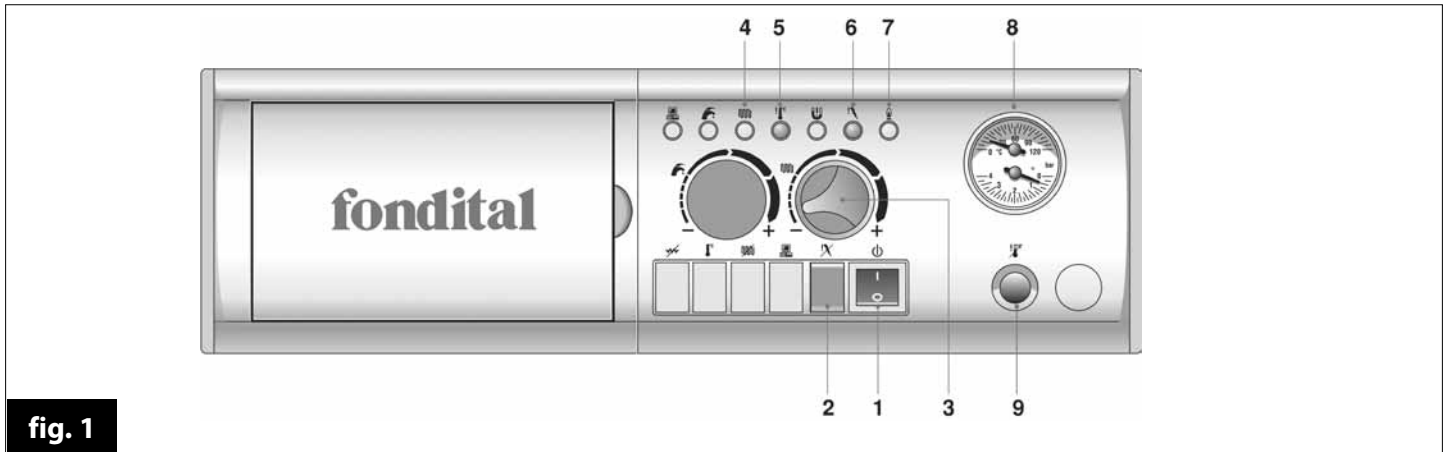

fig. 1
1.2. Operating the Boiler (Fig. 1)